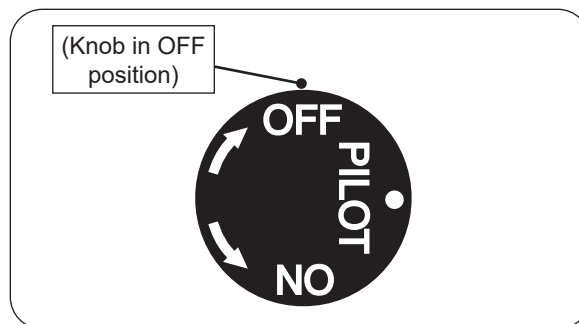

Fig. 33-2 Pilot shut down
2. Locate the valve on the side of the unit. Push in the gas control knob slightly and turn clockwise to **OFF** (see Fig. 33-2).
Push in the control knob slightly and turn clockwise to **OFF**. Do not force. See Fig. 33-2.